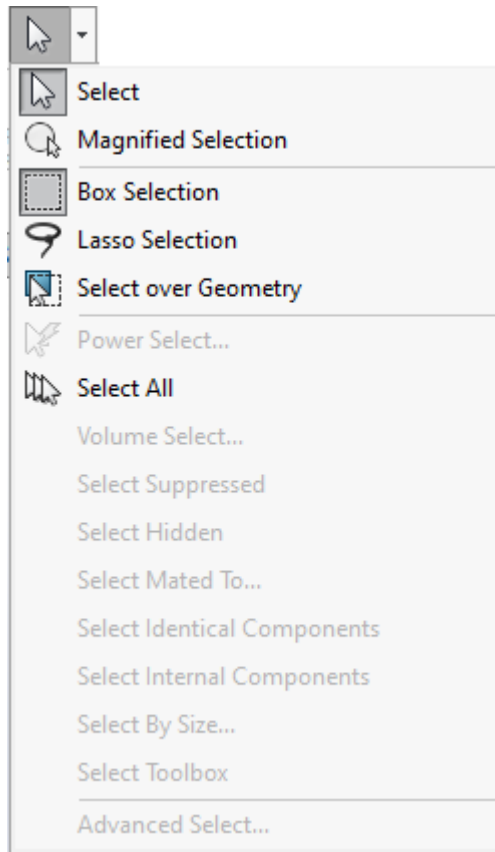

Fig. 1.6 – Selekt: expanded menu
**Select:** Used for selecting parts of the model or sketch, such as edges, components, vertices, etc. The context menu includes other selection options like extended selection, select hidden, select all, toolbar, internal components, etc. (fig. 1.6)